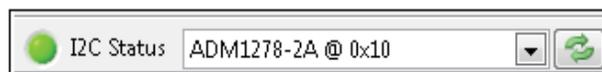

Figure 2. I2C Status Indicator and Active Device List
6. The software searches to identify which device is connected to the interface. The top right section of the GUI shows whether the I2C link is operational, indicated by the green **I2C Status** indicator (see Figure 2). The device that is detected on the evaluation board is listed in the box to the right of this indicator (see Figure 2). Click the drop-down arrow to show a list of all active devices detected by the software.